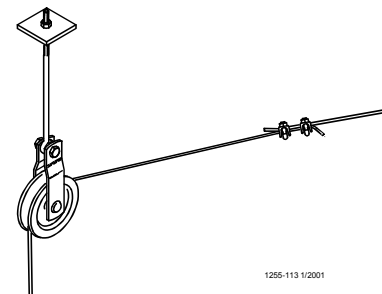

Figure 8. Full Line Suspension Kit
2. Thread the end of the 3/32" or 1/8" cable through the pulley toward the winch. Clamp this end to the 3/16" winch cable about 6" (150 mm) from the last pulley, using a 3/16" cable clamp. **See Figure 8 on page 12.**